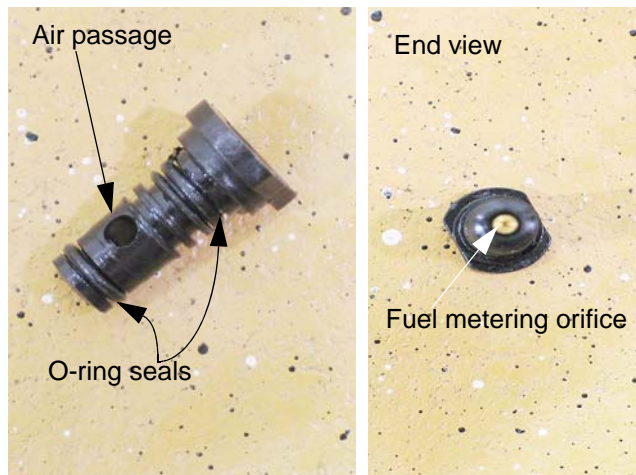

Figure 4.47
9. Examine the metering plug: See Figure 4.47.